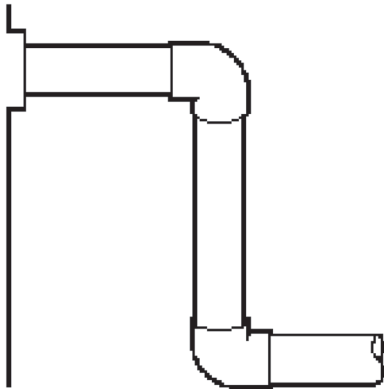

Fig. 8: Plumbing
**CAUTION:** NEVER install PVC directly into heater. Four feet of copper or high temperature pipe and two elbows are required between the heater and the PVC connections. See Fig. 8 below.